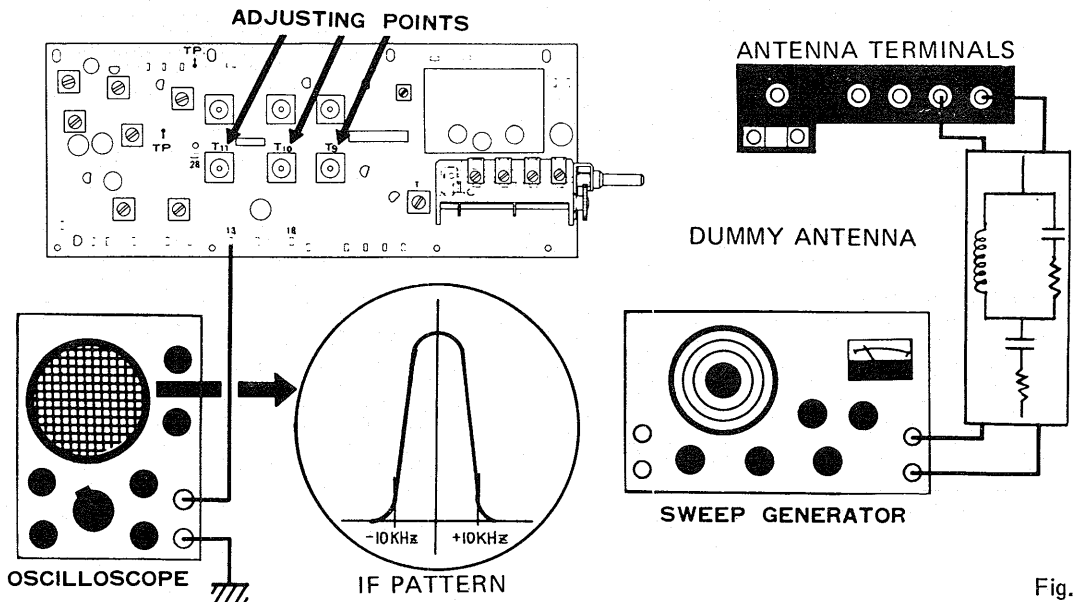

Fig. 9
- Adjust the AM IFT cores (T9, T10, T11) as shown in Fig. 9. Make the pattern symmetrical, with its peak on the oscilloscope screen grid.